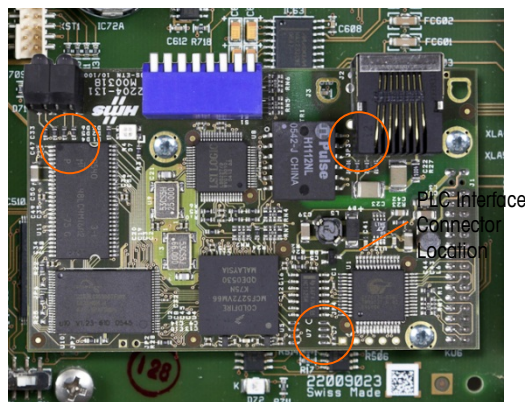

Figure 4-64: PLC Interface Module Installed on Main PCB
To remove a PLC interface module from the main PCB, loosen and remove the three screws (indicated in Figure 4-64) holding it in place, and carefully lift the module off its connector.
3. Install the three screws indicated in Figure 4-64.